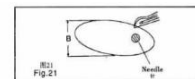
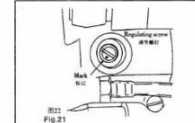

图21 Fig.21
图22 Fig.22
十七. 机针和弯针的调节 (图21, 图22) Adjustment of the needle and looper (Fig.21,22)
按如下顺序调节可得弯针椭圆运动中 (图21)
1. 拆下弯针由柄罩上的橡胶塞 (图22)
Adjustment of forward & backward motion of the looper: The dimension of part B of the looper in an elliptic motion can be measured, (refer to Fig.21). The max. dimension of part B is usually 3.7mm, suitable for sewing operation of needles of all kinds of sizes.
1) Take off the rubber plug on the crank case of the looper (refer to Fig.22)